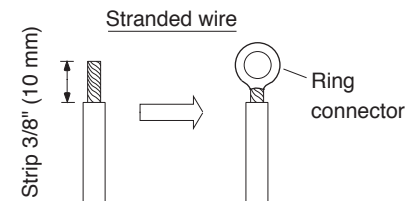

Fig. 28
- (1) Cut the wire end with a cutting pliers, then strip the insulation to expose the stranded wiring about $3/8$ " (10 mm) and tightly twist the wire ends. (Figs. 28 and 29)
- (2) Using a screwdriver, remove the terminal screw(s) on the terminal plate.
- (3) Using a ring connector fastener or pliers, securely clamp each stripped wire end with a ring connector. (Fig. 28)